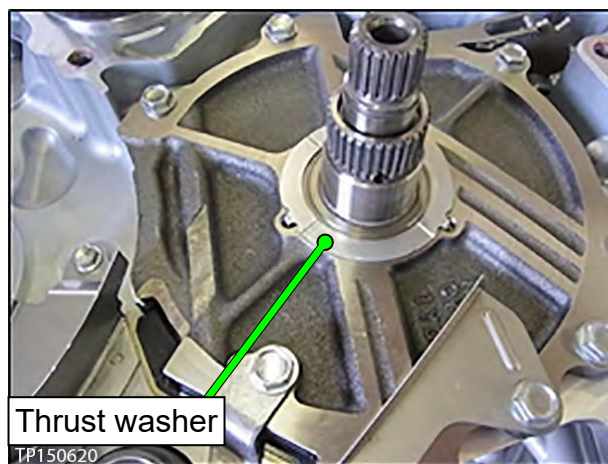

Figure 40
3. Remove the thrust washer (see Figure 40).